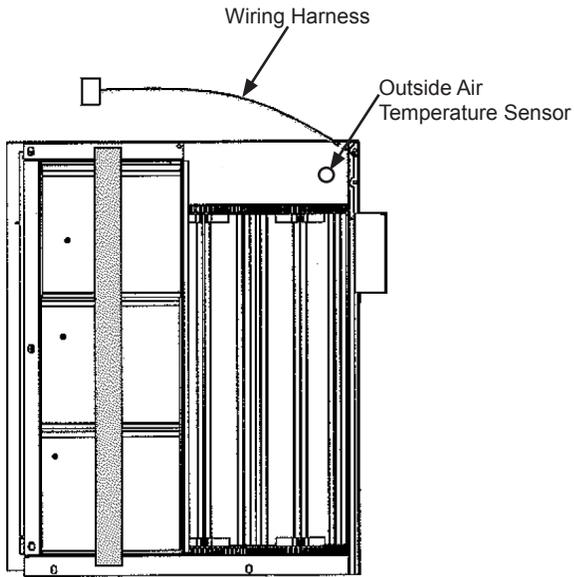

Fig. 1 - EconoMi\$er X Component Locations
- If EconoMi\$er X will be operating under enthalpy control, replace the factory installed outdoor dry bulb temperature sensor with accessory enthalpy sensor HH57AC081. (See Fig. 1.)